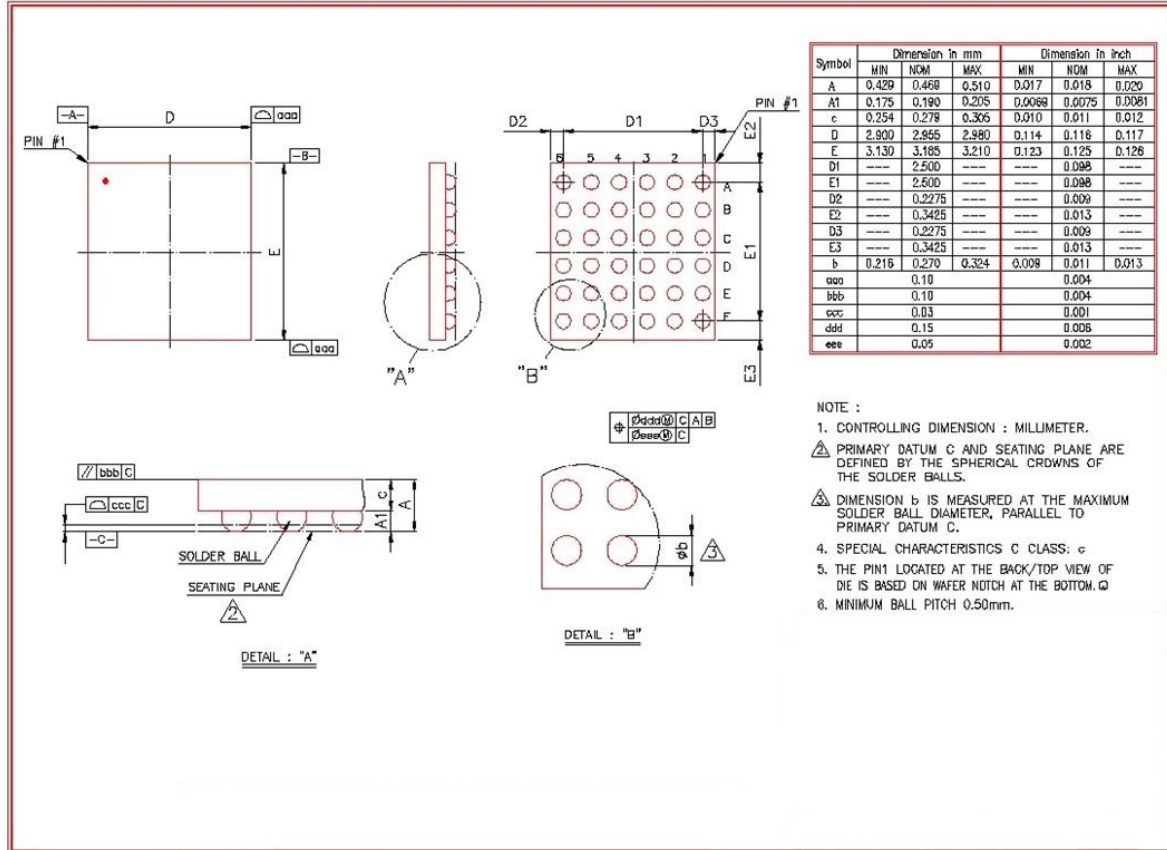

Figure 49: 36 bump WL-CSP 0.5mm pitch package outline drawing
- Headphone output and microphone input connectors shown in Figure 49 are of the 3.5 mm RCA/phono type, but any other suitable connector is acceptable.
- If two microphones are supplied by this pin, then separate RC circuits are implemented for each microphone to provide isolation between inputs, as shown in Figure 49.